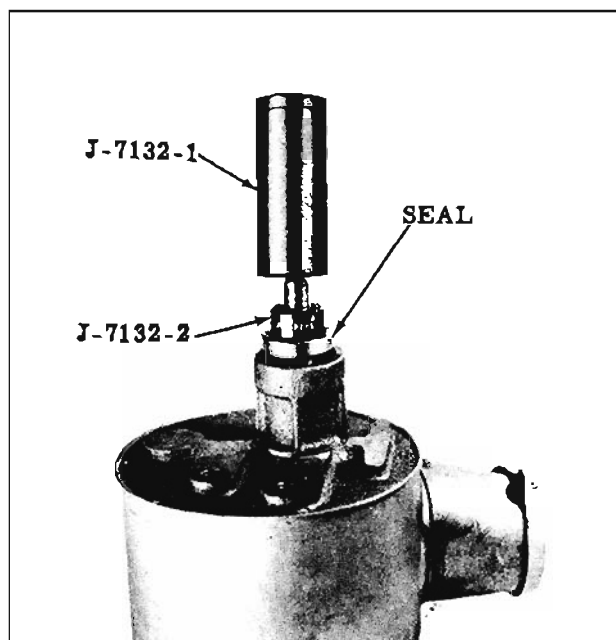

Fig. 8-24 Installing Pump Seal
5. Slide Tool J-7132-1 (with seal) over drive shaft, then using Tool J-7132-2, drive seal into pump body. (Fig. 8-24)